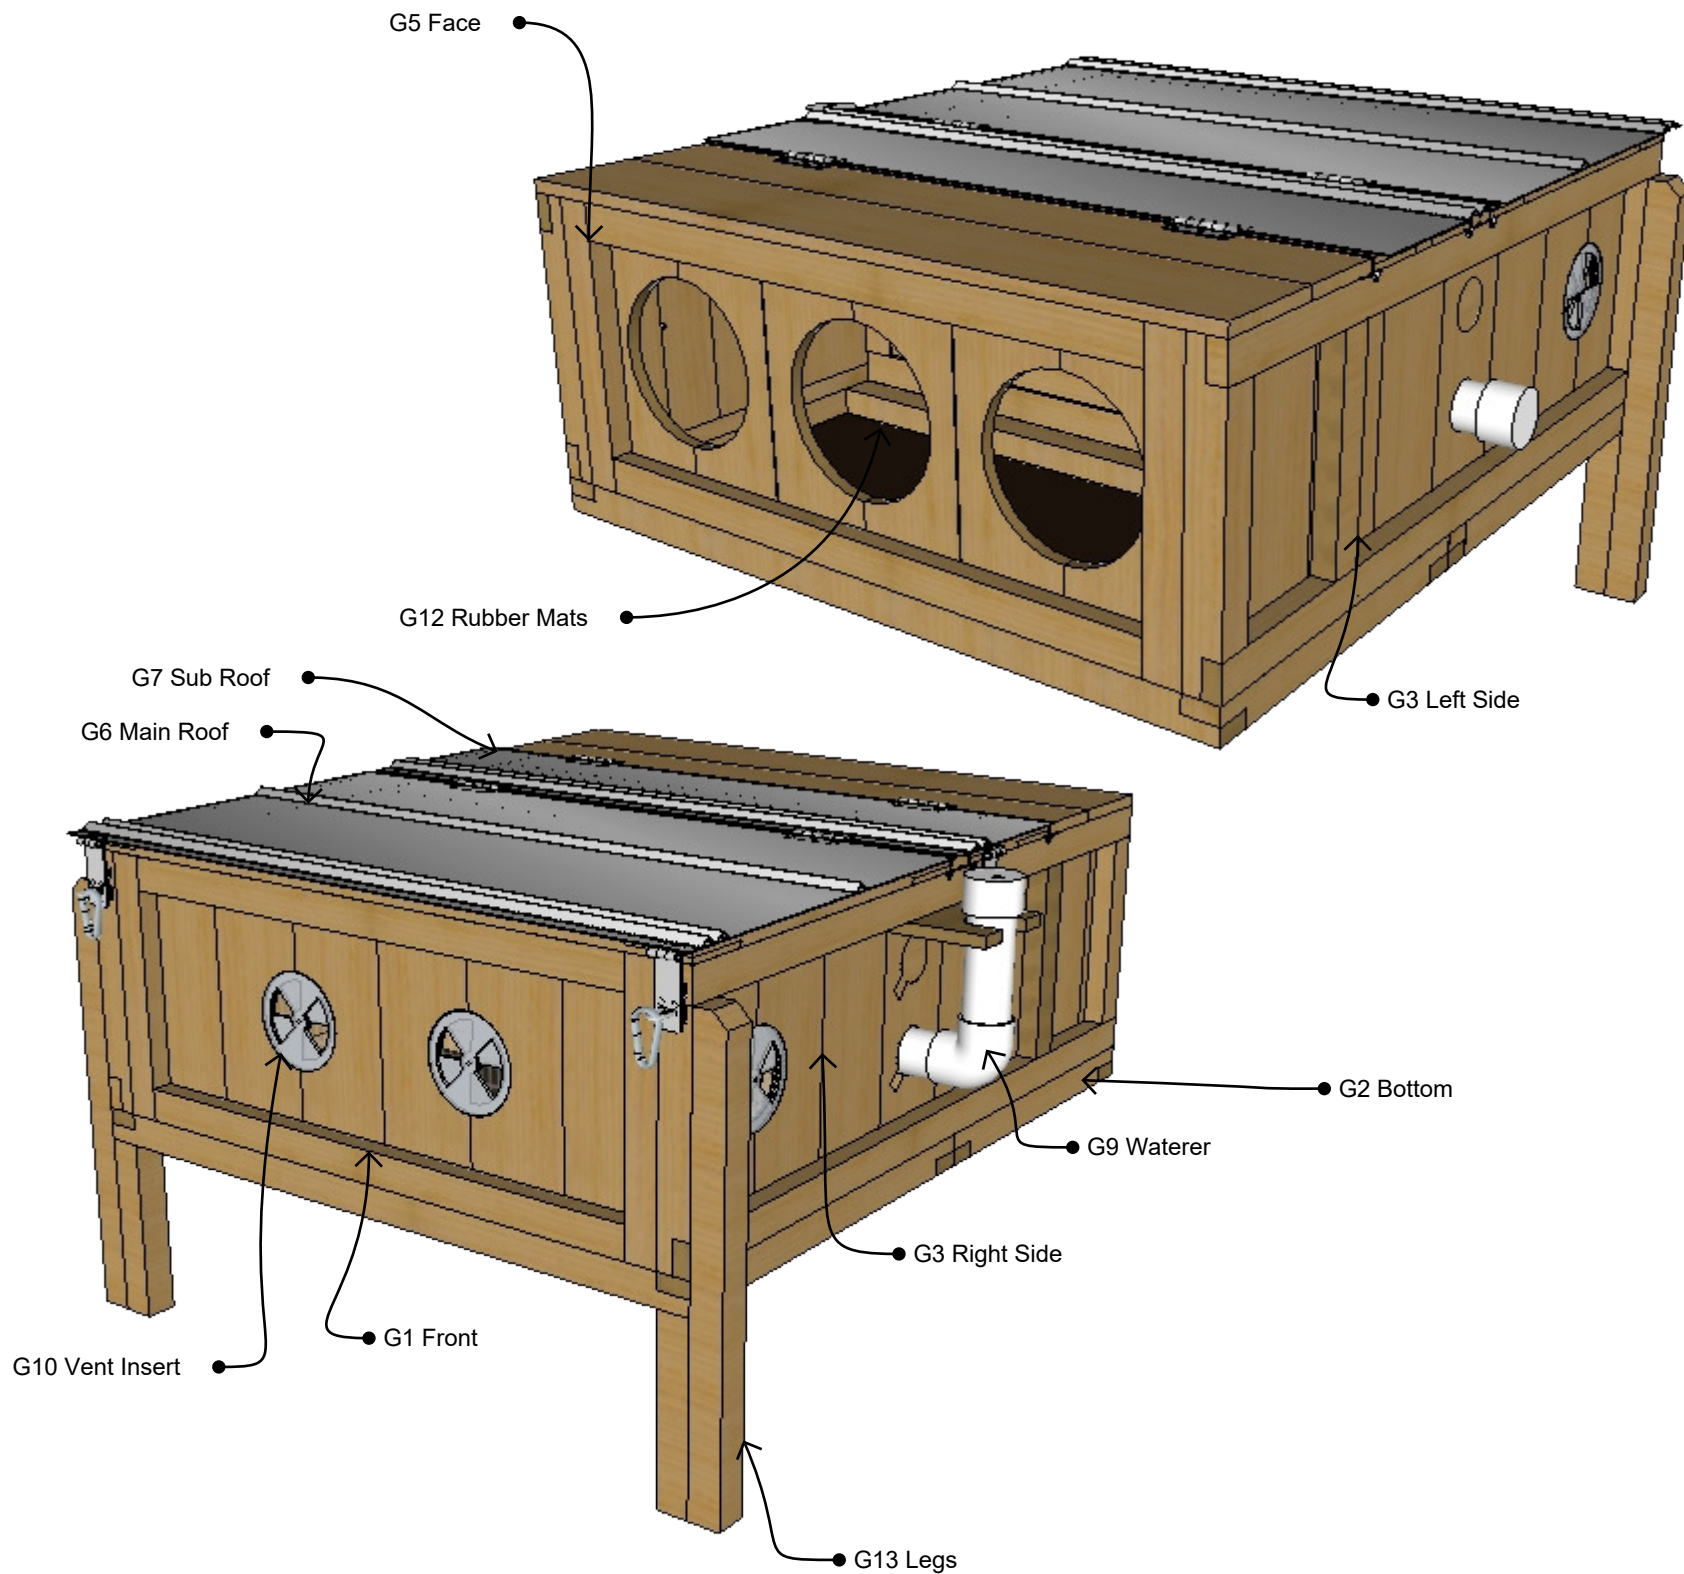

Fig 19
19.1 Attach Bottom To Sides, Face & Front - Using Figures 19, 19a, 19b for guidance, place the sides, face and front panels on a flat surface and screw the bottom to the assembly using Brown E1 Screws in pre-drilled holes.